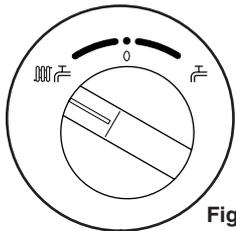

Fig. 13
1. With the selector switch in either operating position (Figs. 13 & 14) the pump will automatically operate for 1 minute in every 24 hours to prevent sticking.